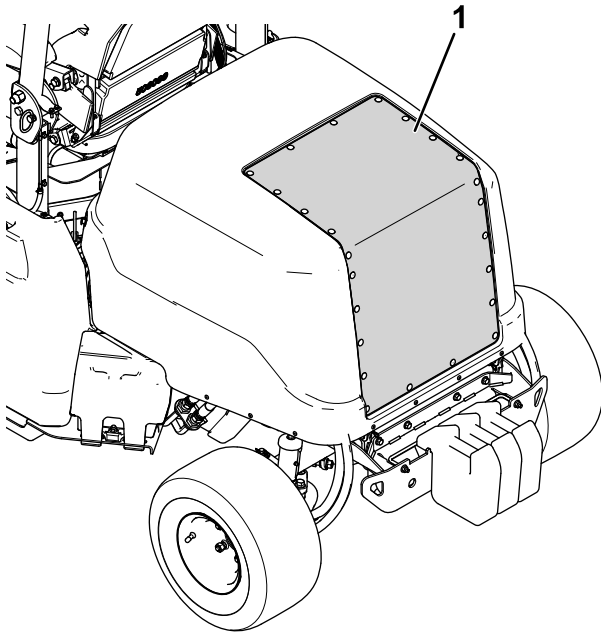

Figure 70
2. Use compressed air to clean the hood screen (shown in Figure 70). Direct the air out from the machine.